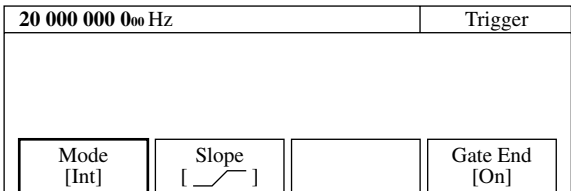

Fig. 4-22 Trigger Setup Screen
This function selects the trigger signal identifying the start of frequency measurement, select trigger polarity, and sets the gate end. Pressing the [Trig] key displays the screen where you can set parameters (see Fig. 4-22).
- Use the cursor keys to select either Int, Ext, or Line, and then press. Enter to return to the trigger setup screen shown in Fig. 4-22. The parameter that you see is displayed within the square brackets [] of the F1 menu.